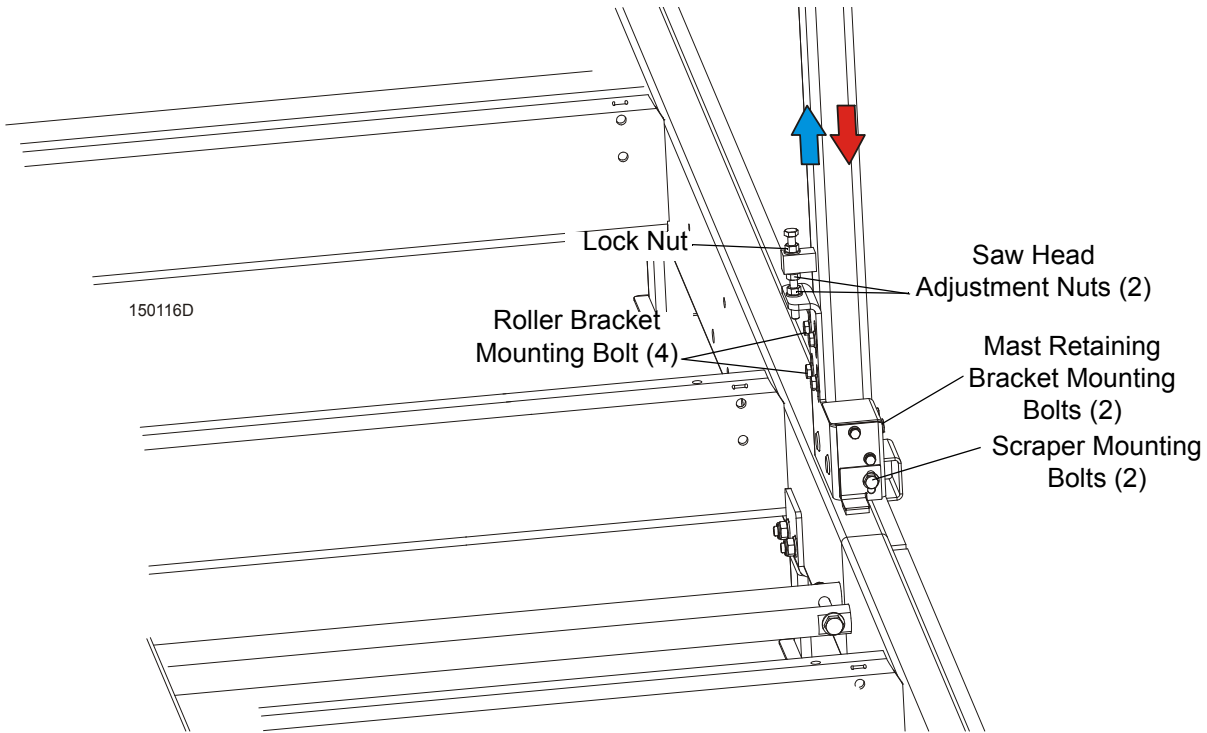

FIG. 3-2
**See Figure 3-2.** When the blade is parallel to the bed, it will measure the same distance from the bed rail at the inside and outside of the saw head. To adjust the saw head tilt, loosen the four mounting bolts of the idle side roller bracket, the two scraper mounting bolts and the two mounting bolts of the mast retaining bracket. Use the saw head adjustment nuts to move the outside of the